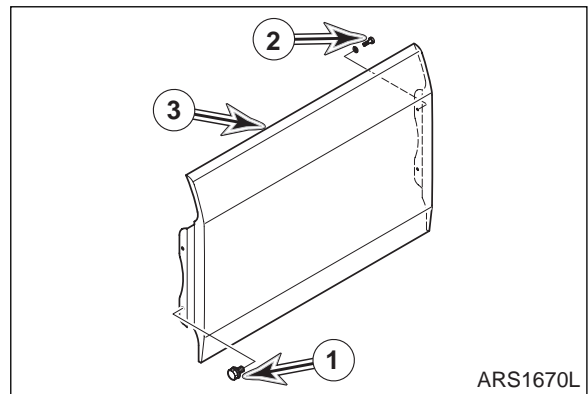

Figure 14
5. Install four bolts (1 and 2, Figure 14) and cover (3) on fuel tank and support.